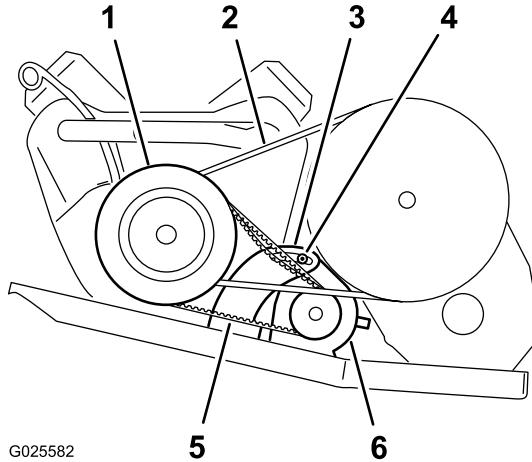

Figure 53
2. Loosen the pivot nut for the starter generator (Figure 53).
4. Apply downward pressure to the pry bar to rotate the starter down in the slot until the belt tension only allows 6 mm (1/4 inch) belt deflection with 44 N (10 lb) of force (Figure 53).
5. Tighten the pivot nut hand tight, and remove the pry bar (Figure 53).